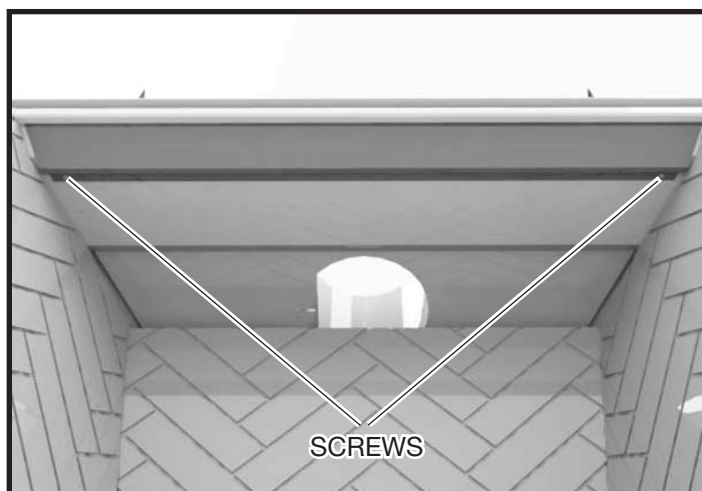

Figure 52: Side panel retainer location.
1. Remove the Side Panel Retainer located on the underside of the firebox heat shield. The retainer slips between the lip of the firebox and the heat shield and is retained in place by two screws (Figure 51 & Figure 52) .